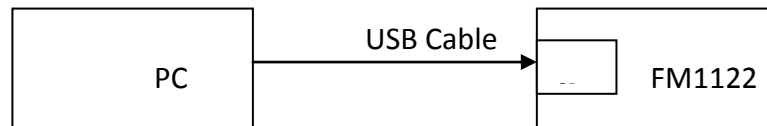

Figure 53 Connect FM1122 to PC and configure
Figure 53 connection block diagram
FM1122 can be configured using “SCAN” function or “Offline Configuration” (Figure 53)
2. Disconnect LV-CAN200 or ALL-CAN300 from FM1122, and connect PC USB cable to FM1122 Device (Figure 53). It is very important not to disconnect FM1122 from power source, because then all CAN data will be lost.